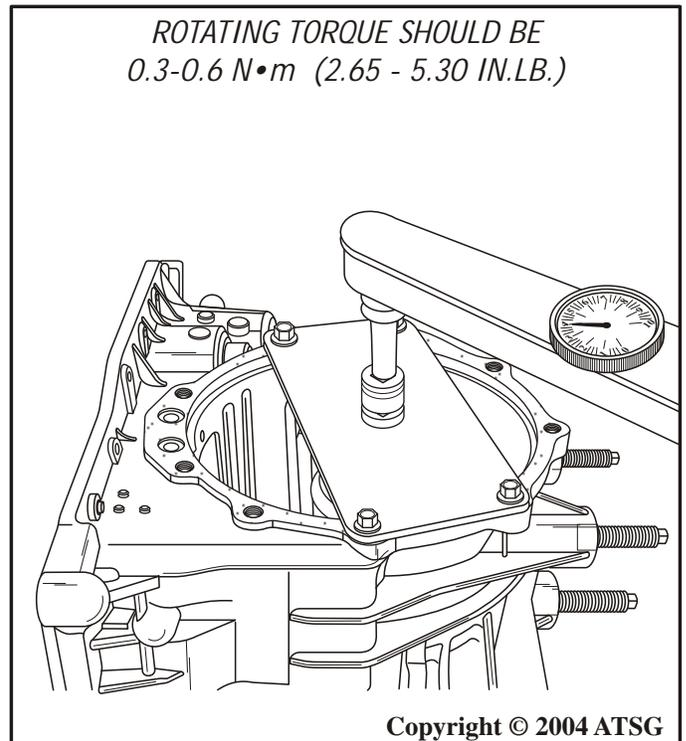

Figure 127
36. Measure the rotating torque with inch pound torque wrench, as shown in Figure 127, which should be 0.3-0.6 N•m (2.65 to 5.30 in.lb.).